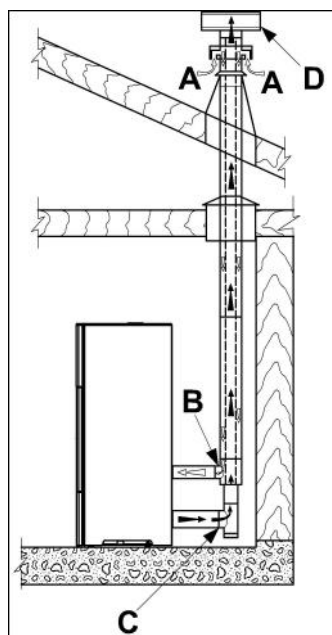

Fig. 5.5
- channel the combustion air using a coaxial exhaust pipe for the expulsion of the fumes and withdrawal of the air; therefore, it is not necessary to create a classic air intake in the room (Fig. 5.5 A,B = Air inlet C,D = Fumes outlet);